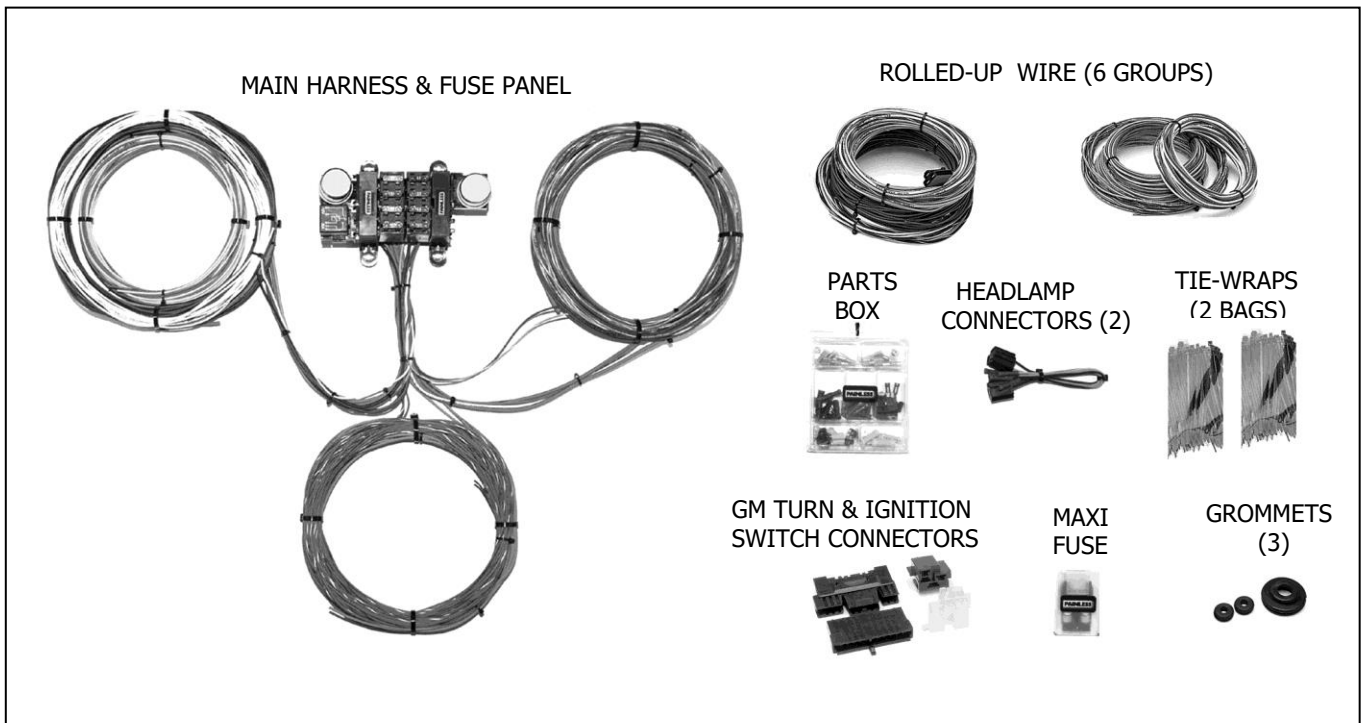

Figure 3-1 Painless Wire Harness Kit P/N 10307
Refer to **Figure 3-1** to take inventory. Please check to see you have everything you're supposed to in this kit. If anything is missing, contact the dealer where you purchased the kit or Painless Performance at (800) 423-9696. This Painless Wire Harness Kit contains the following items: